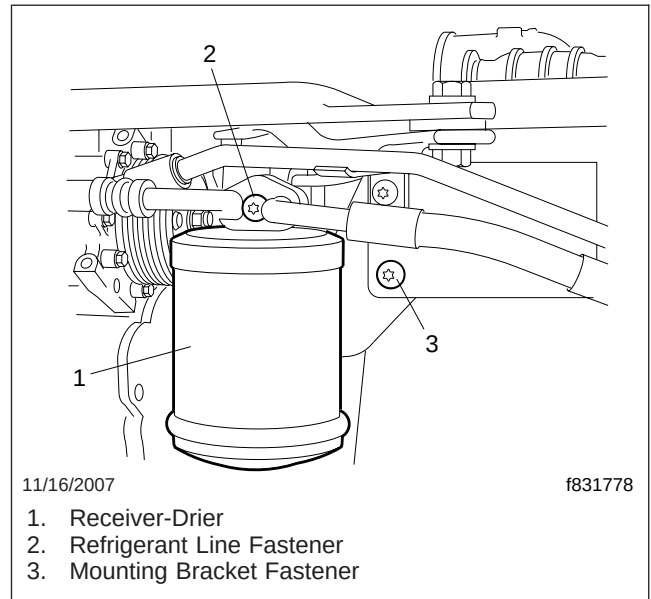

Fig. 1, Receiver-Drier
4. Remove the capscrew that attaches the retaining plate and refrigerant lines to the receiver-drier. Disconnect the refrigerant lines from the receiver-drier, then remove and discard the seals. Quickly cap the refrigerant lines. See Fig. 1.
5. Remove the mounting bracket fasteners, and remove the receiver-drier. See Fig. 1.